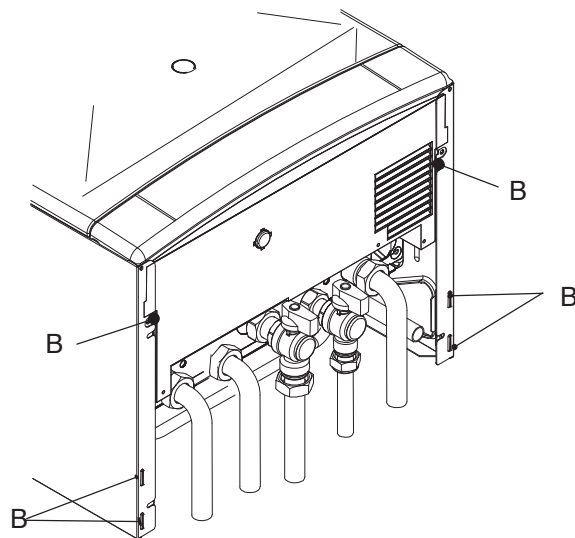

Fig. 8-2
- 1 Loosen the screws B. Bring the bottom of the panels away from the boiler and lift them, freeing them from the top hooks (Fig. 8-2).